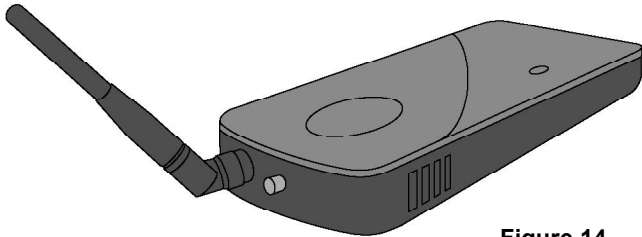

Figure 14
1. Attach the on-board antenna by screwing it onto the threaded connector on the amplifier. Position the antenna at a 45-degree angle by adjusting it on its base (see Figure 14). Note: the on-board antenna may be positioned vertically; however, this will require greater separation from the cradle antenna (see Page 5).
1. Attach the on-board antenna by screwing it onto the threaded connector on the amplifier (see Figure 14).